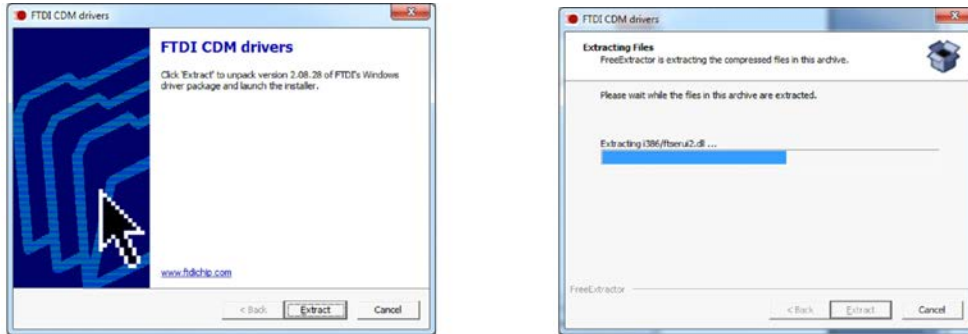

Figure 3.44. FTDI - Begin Installation
- Click **Extract** to unpack the driver for installation (Figure 3.44).